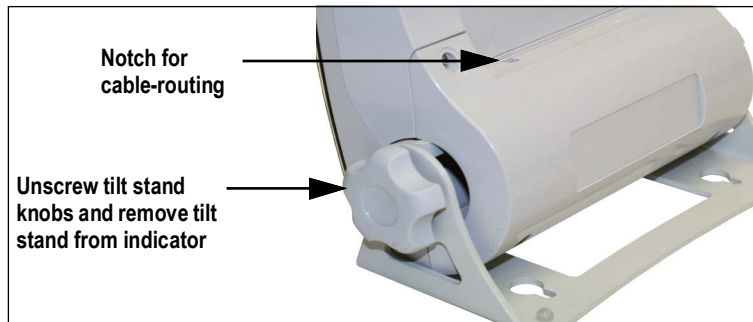

Figure 2-10. Remove Tilt Stand
**NOTE:** Ensure the cable is routed through the notch at the top left of the back cover (see Figure 2-10 on page 12).